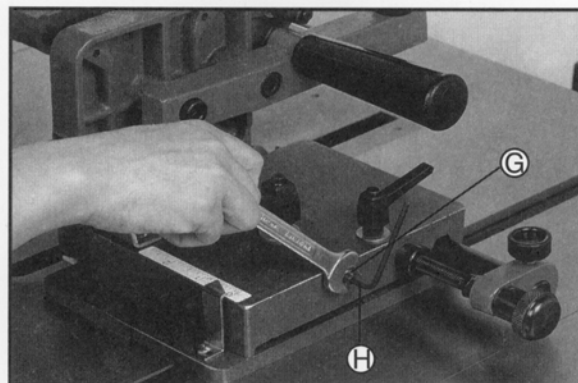

FIGURE 9
10. Turn screw (H) figure 9 clockwise until it bottoms This prevents the vertical work support plate (C) from accidentally being moved into the blade. tighten nut (G).